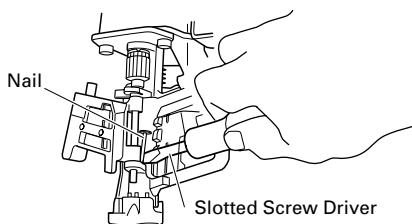

Fig 12
- (2) Remove the jammed nail with slotted screwdriver. (Fig. 12)